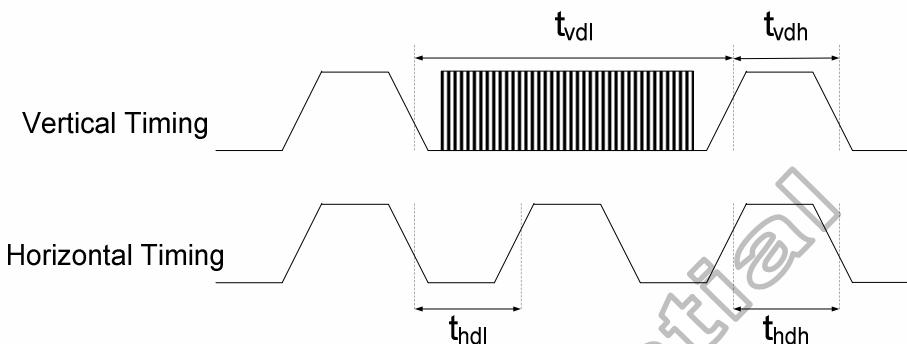

Figure 5. 48
**Figure 5. 46** t_{hdh} = The LCD display is not updated from the Frame Memory t_{hdl} = The LCD display is updated from the Frame Memory (except Invisible Line – see above.)**Note:** During Sleep In Mode, the Tearing Output Pin is active Low**Figure 5. 47**